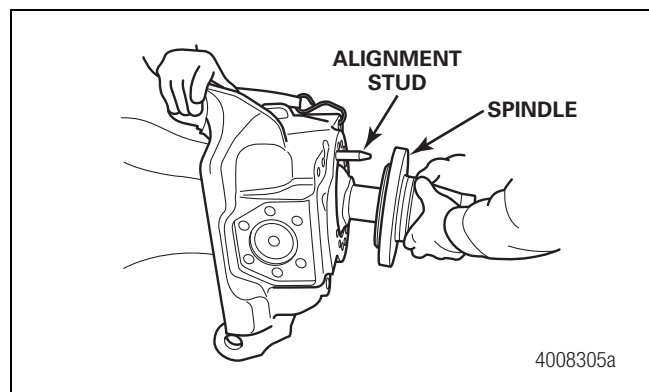

Figure 8.8
12. Insert a M16 x 2.0 100 mm stud into the top spindle mounting fastener position. The stud will be used to align the spindle while sliding it into position on the knuckle. Figure 8.8.